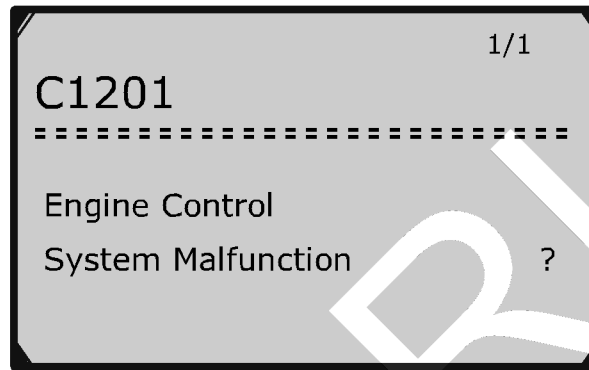

Figure 4.3
3) Review selected data on screen. (Figure 4.3 )